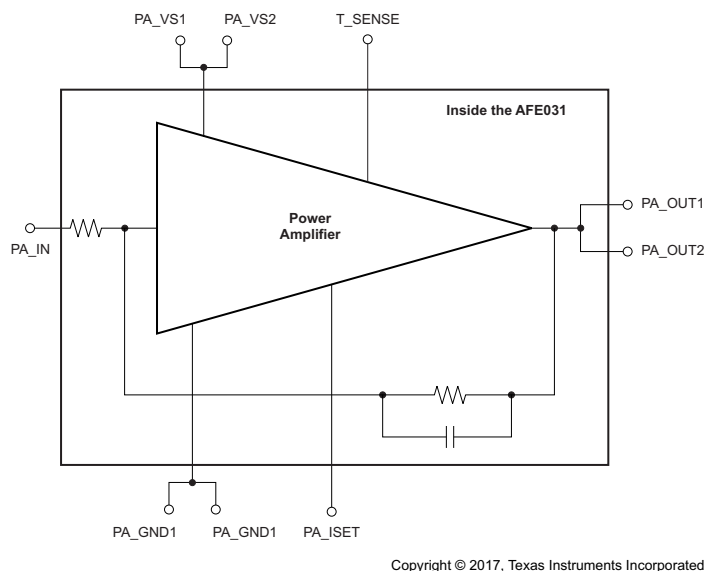

Figure 24. PA Block Equivalent Circuit
The Power Amplifier (PA) block consists of a high slew rate, high-voltage, and high-current operational amplifier. The PA is configured with an inverting gain of 6.5 V/V, has a low-pass filter response, and maintains excellent linearity and low distortion. The PA is specified to operate from 7 V to 24 V and can deliver up to ± 1.5 A of continuous output current over the specified junction temperature range of -40°C to $+125^{\circ}\text{C}$. Figure 24 illustrates the PA block.